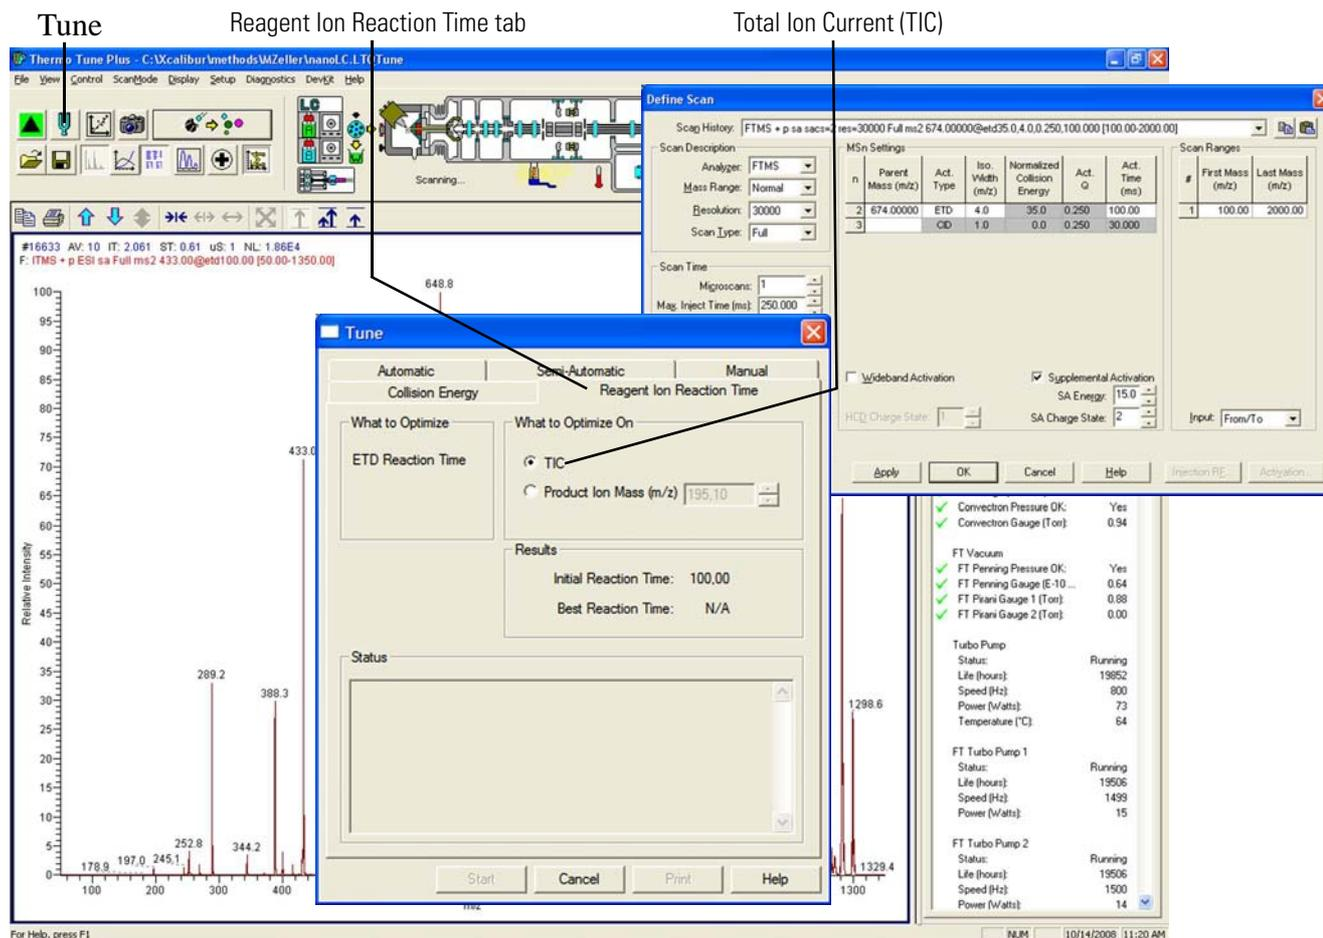

Figure 8-29. Tune and Define Scan windows open in Tune Plus
3. Click **Tune**. See Figure 8-29 on page 8-30.
4. Click the **Reagent Ion Reaction Time** tab in the Tune dialog box. See Figure 8-29.
- i. Click **TIC** in the What To Optimize On section of the Tune dialog box. (See Figure 8-29.)